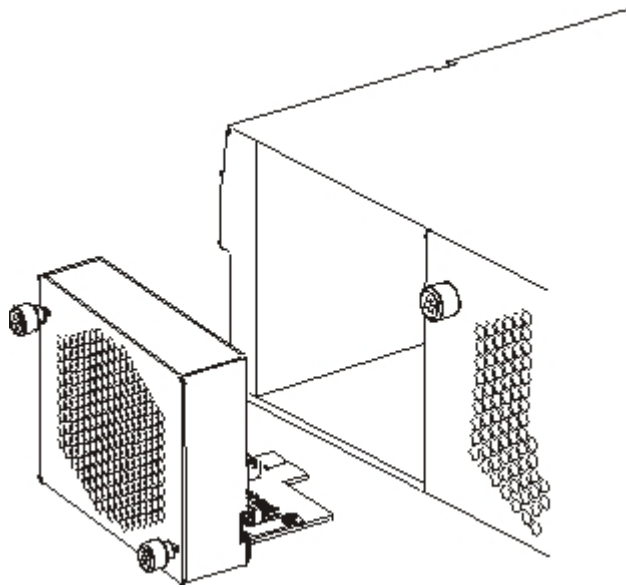

Figure 15. Removing the fan module on a Type 7199 appliance
5. Remove the fan module, as illustrated in Figure 15.